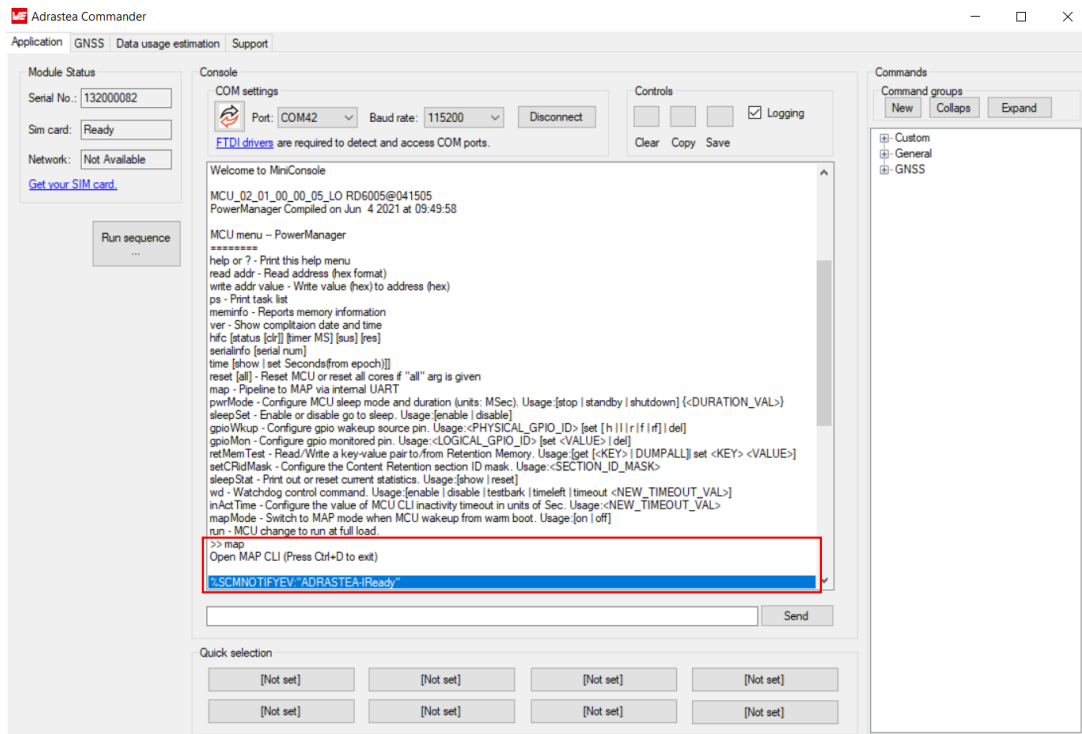

Figure 15: MiniConsole start view- Adrastea command
5. Press the reset button on Evaluation board to ensure a clean start-up of the module. See figure 15.